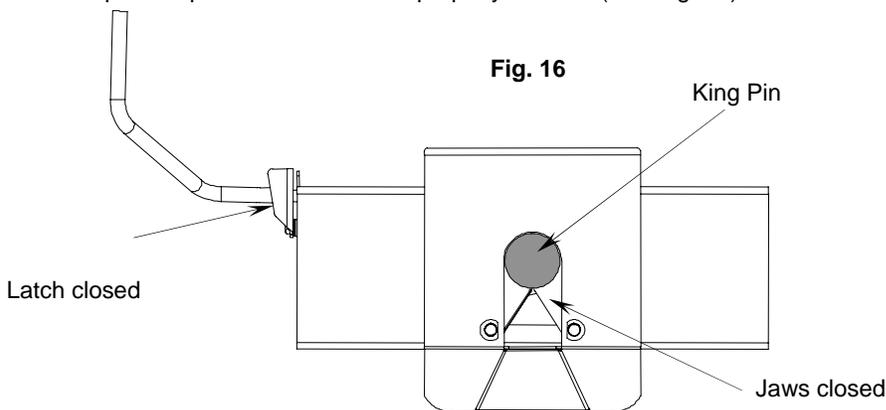

Fig. 16
7. Rotate latch for hitch handle to closed position in groove of handle to be sure hitch jaws are locked closed. IF LATCH IS NOT ALIGNED WITH GROOVE IN HANDLE, TRAILER HAS NOT BEEN PROPERLY CONNECTED TO HITCH. **DO NOT TOW!** Repeat steps 1 - 7 until trailer is properly hitched. (See Fig. 16)